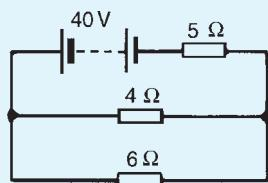

Figure 13.14
4. Use Kirchhoff's laws to find the current flowing in the  $6\Omega$  resistor of Fig. 13.14 and the power dissipated in the  $4\Omega$  resistor.